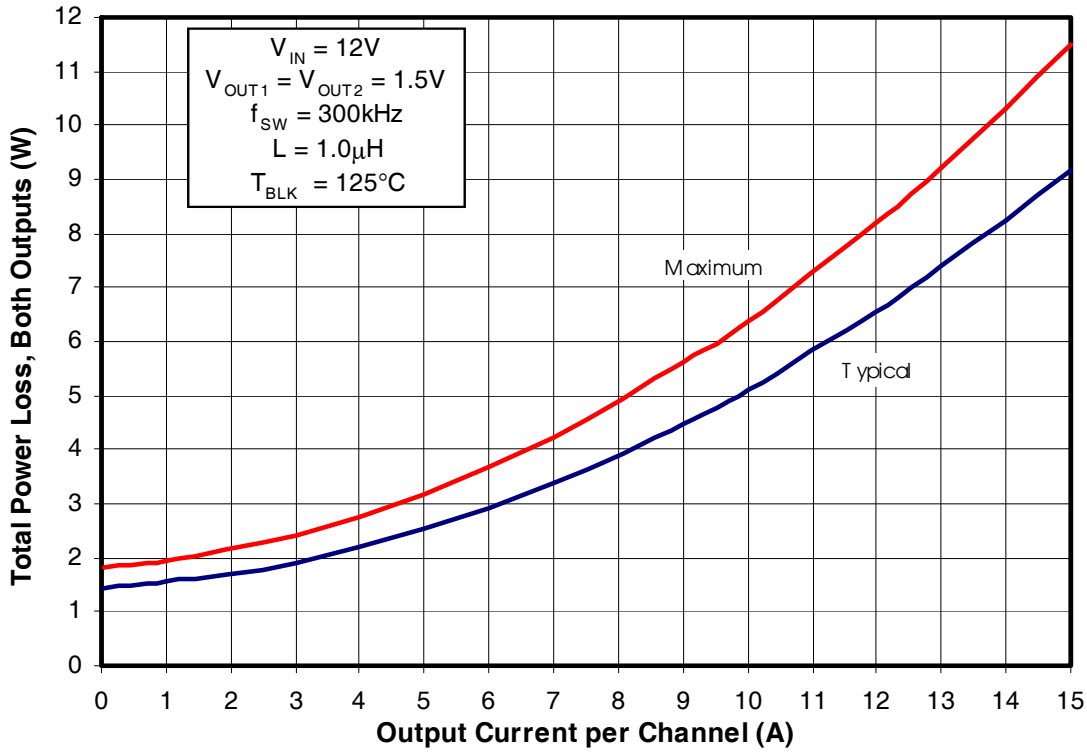
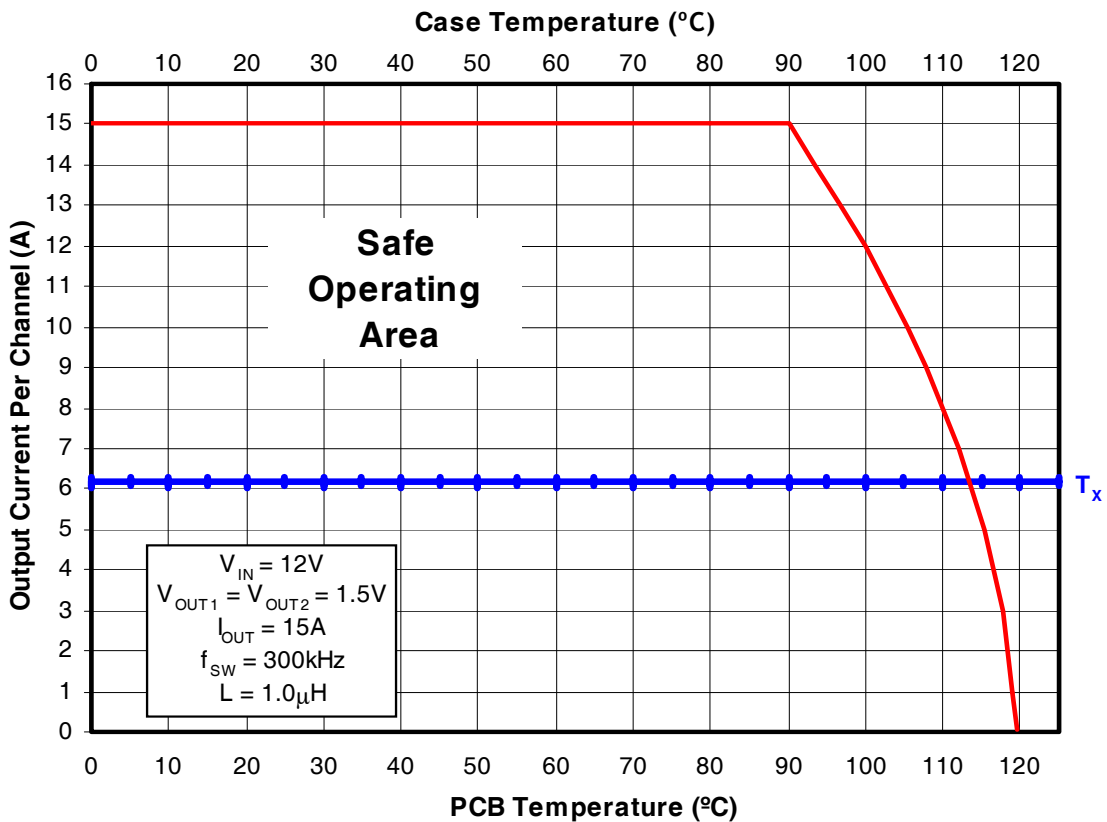
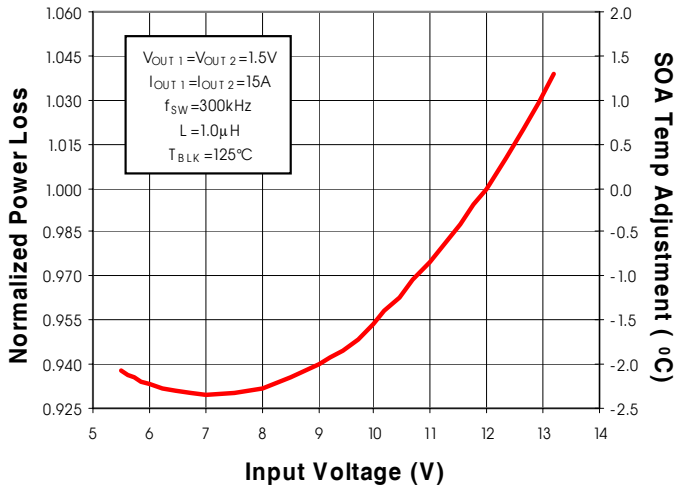

Fig. 2: Power Loss vs. Current
Fig. 3: Safe Operating Area (SOA) vs.  $T_{PCB}$  &  $T_{CASE}$
Fig. 4: Normalized Power Loss vs.  $V_{IN}$
To make adjustments to the power loss curves in Fig. 2, multiply the normalized value obtained from the curves in Figs. 4, 5, 6 or 7 by the value indicated on the power loss curve in Fig. 2. Remember that the power loss in Fig 2. is the power loss for 2 outputs operating with the same output voltage. If differing output voltages are used the initial power loss for each channel needs to be divided by 2. Then if multiple adjustments are required, multiply all of the normalized values together, then multiply that product by the value indicated on the power loss curve in Fig. 2. The resulting product is the final power loss based on all factors. See example no. 1.
To make adjustments to the SOA curve in Fig. 3, determine your maximum PCB Temp & Case Temp at the maximum operating current of each iP1202PbF. Then, add the correction temperature from the normalized curves in Figs. 4, 5, 6 or 7 to the  $T_x$  axis intercept (see procedure no. 2 above) in Fig. 3. When multiple adjustments are required, add all of the temperatures together, then add the sum to the  $T_x$  axis intercept in Fig. 3. See example no. 2.
- Output1 (Fig. 2) Maximum power loss =  $W 8.25/2 = 4.125W$
(Fig. 4) Normalized power loss for input voltage  $\approx 0.93$
- Output2 (Fig. 2) Maximum power loss =  $6.4W / 2 = 3.2W$
- (Fig. 4) Normalized power loss for input voltage  $\approx 0.93$
- Output1 (Fig. 4) Normalized SOA Temperature for input voltage  $\approx -2.3^{\circ}C$
- Output2 (Fig. 4) Normalized SOA Temperature for input voltage  $\approx -2.3^{\circ}C$